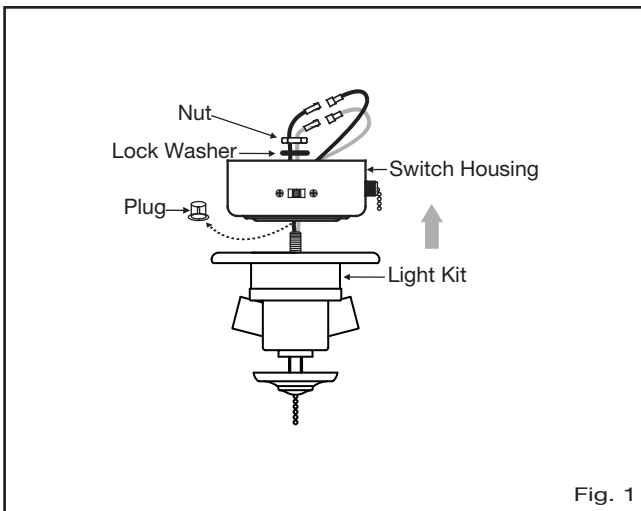

Fig. 1
- 1 Remove the trim ring from the canopy to expose the 6 mounting holes. The downrod, ball and cotter pin will not be used for this mounting (Fig. 1).
- 2 Feed fan wires through the rubber gasket and canopy and position the canopy over the mounting collar on top of the fan. The collar's 2 security screws will not be used and can be turned all the way into the collar to make attaching the canopy easier. (Fig. 1)
- 3 Align the canopy on top of the fan so the 3 large holes are over the 3 screws holding the collar to the fan. The 3 small holes will then be aligned with the 3 open holes in the top of the fan. (Fig. 1)
- 1 Remove ball from downrod by loosening set screw in the side of the ball. Slide ball down and remove ball pin; remove ball. (Fig. 1)
- 1 Place fiber washer on screw. Insert this assembly through the blade and start the screw into the blade arm. Repeat this procedure without tightening the screw until all 3 screws have been started into the blade arm (Fig. 1).
- 1 Remove and discard the plug from the switch housing, attach the light kit to the switch housing by feeding the light kit wires (black and white) through the hole of switch housing and then screw it onto the switch housing by nut & lock washer. Be sure it is tight enough to prevent light kit from vibrating loose. (Fig. 1)
A DOWNWARD airflow creates a cooling effect as shown in Figure 1. This allows you to set your air conditioner on a warmer setting without affecting your comfort.